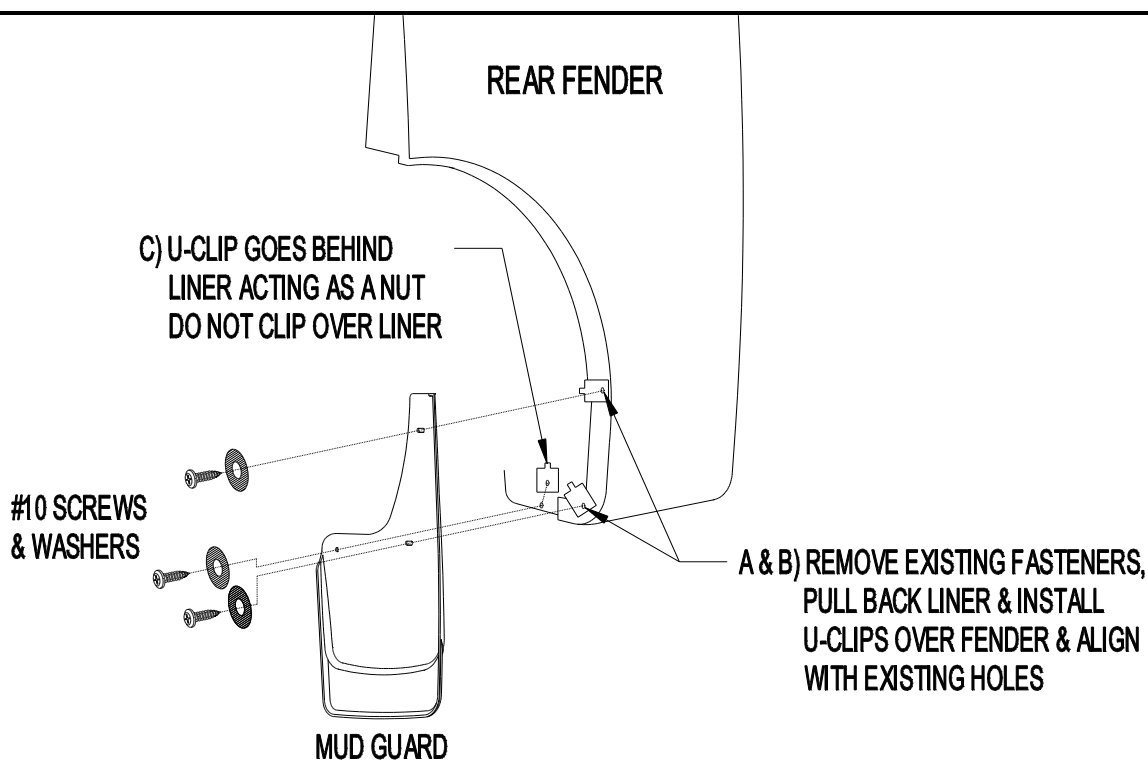

Figure 1
2. Remove existing fasteners from locations A and B, pull back fender liner and install u-clips over sheet metal and align with existing holes (Figure 1).
4. Using the mud guard as a template, mark and drill 1/8" hole at location C (Figure 1).